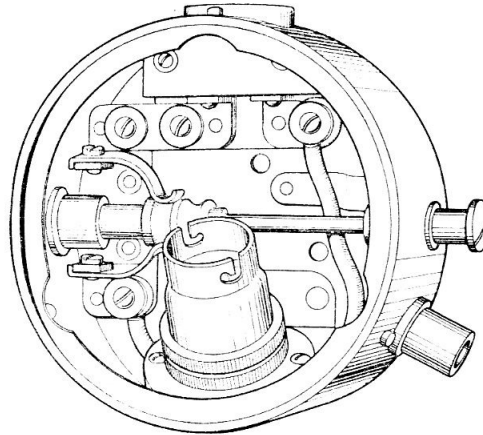

Fig. 2. Interior of cockpit lamp
4. The interior of the lamp is shown in *fig. 2*. The switch consists of two leaf springs bridged by a brass bobbin mounted on a switch rod but insulated from it. The switch rod passes right across the case, and terminates in a button outside the case on each side. The circuit is closed when the